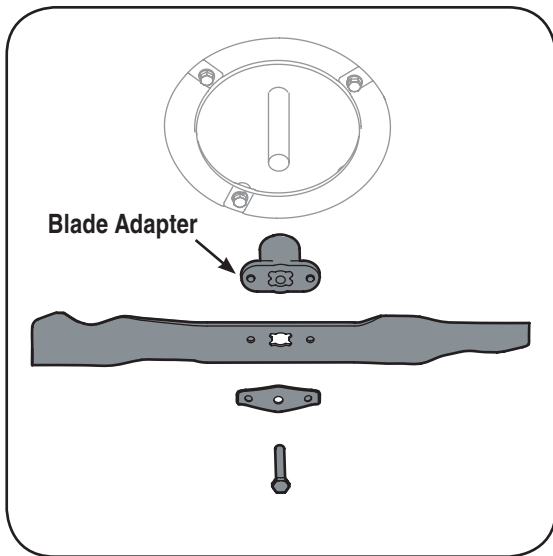

Figure 5-2
3. Remove the bolt and the blade bell support which hold the blade and the blade adapter to the engine crankshaft. See Figure 5-2.
9. Install the blade adapter on the crankshaft with the “star” away from the engine. See Figure 5-2. Place the blade with the side marked “bottom” (or with part number) facing away from the adapter. Align the blade bell support over the blade with the tabs in the holes of the blade and insert the hex bolt.